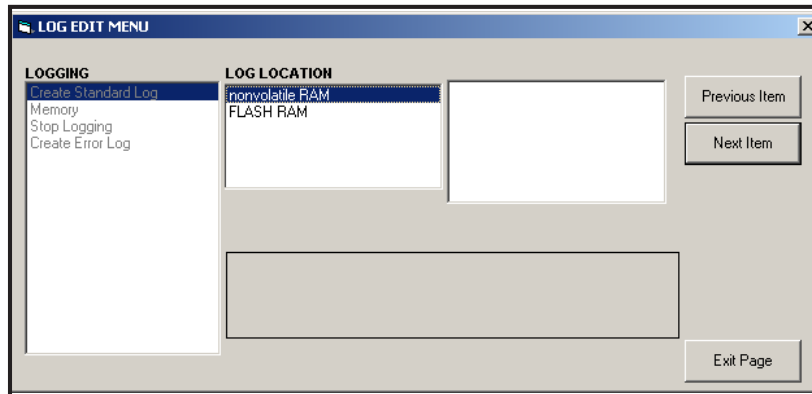

Figure 12: Log Location in the Create Standard Log Option
- a. Double-click on the *Create Standard Log* option. The window now appears similar to *Figure 12* below.